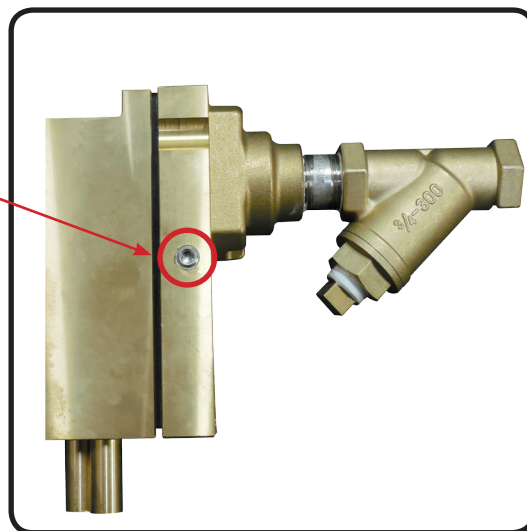

Figure 3
2. Verify that your AirPrime unit has the required $\frac{1}{8}$ " NPT port as shown in **Figure 3** on **Page 1**.